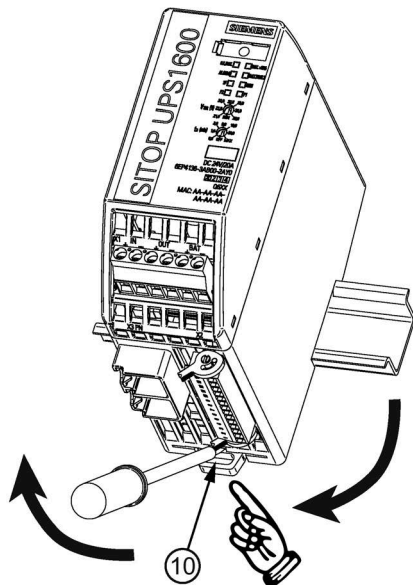

Figure 5-1 Removal (example 6EP4136-3AB00-2AY0)
To remove, carefully open the slider ⑩ using a screwdriver or by hand (see Figure 5-1 Removal (example 6EP4136-3AB00-2AY0) (Page 188)) and disengage the device at the bottom edge of the DIN rail. Then you can remove the device from the upper edge of the DIN rail.